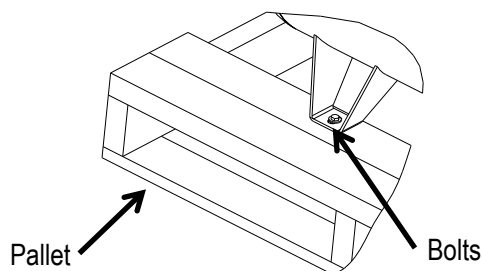

Figure 2
2. Unbolt the compressor feet by removing the bolts, washers and nuts. Discard them after removal. (Figure 2)